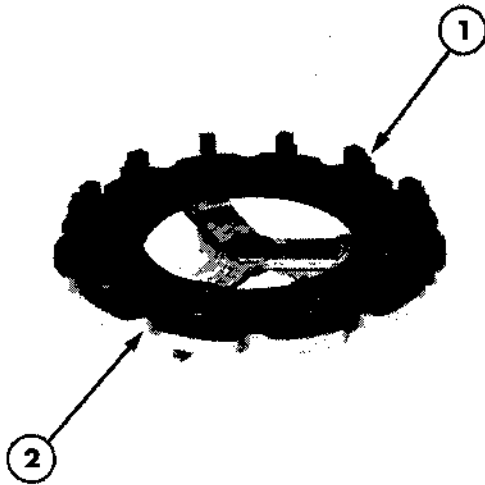

Figure 16
1. Install the twelve Adaptors and Set Screws, Tool No. FT.7110-3 (SW 12B-3) on the Base Plate, Tool No. STM 7704, as shown in Figure 16.